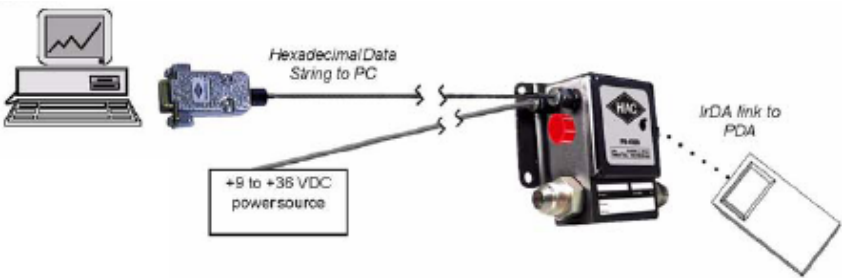

Fig 4-12 : IM4000-1 Signal Connections
- 1) Make connections as shown in Figure 4-12.